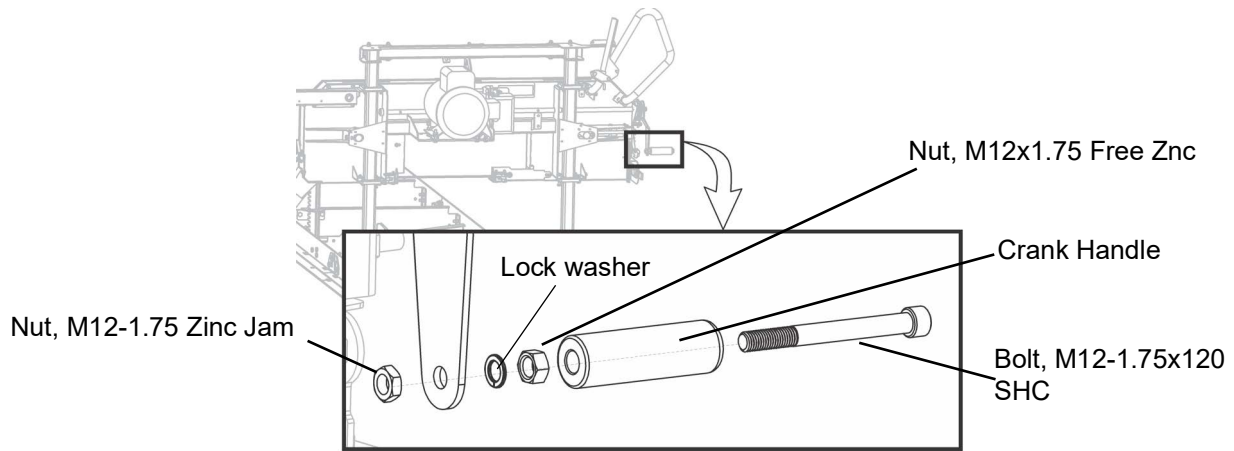

**FIG. 3-30**
**NOTE:** The clutch cable can also be adjusted at the clutch or at the engine. See FIG. 3-30.